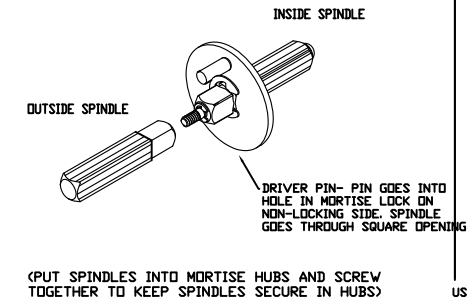

FIG 2
4. SLIDE OUTSIDE LEVER ASSEMBLY ONTO THE MORTISE WITH POSTS GOING THROUGH THE MORTISE THROUGH HOLES. SEE FIG 2.
5. ON THE OPPOSITE SIDE- PUT THE 2 MOUNTING SCREWS THROUGH HOLES ON THE ROSE- SEE FIG 2. ALIGN THE SCREWS WITH THE POSTS AND TIGHTEN.
10. LEVER HANDING- CHANGE MOUNTING POST POSITION TO CHANGE HANDING - SEE FIG 2 FOR RH. SEE MORTISE HANDING CHANGE INSTRUCTIONS TO CHANGE MORTISE HANDING. NOTE: DRIVER PIN IN ON NON-LOCKING SIDE (SEE EXPLODED VIEW).